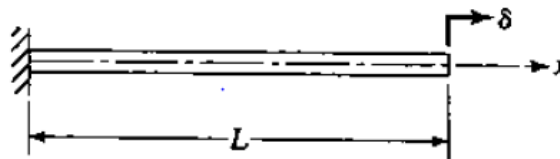

Figure 2 (b)
- b) Consider the rod as shown in figure 2 (b), where the strain at any point is given by $\epsilon = 1 + 2x^2$. Find the tip displacement δ .